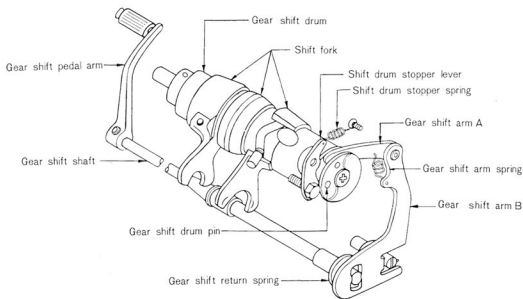

Fig. 4-13-1 Shifting Mechanism
- 2) Checking the Gear Shift Arm Spring (Fig. 4-13-1)